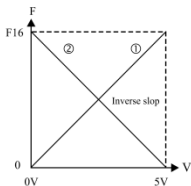

Figure 1
* Please refer to Figure 1, 2 & 3 and see the description of parameters in the table below :